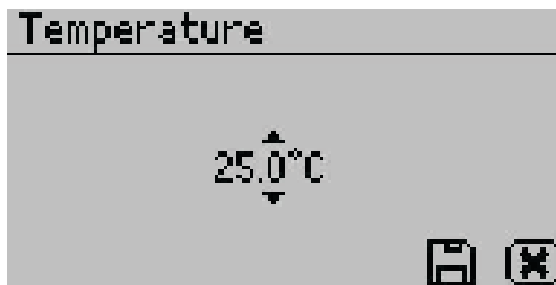

Figure 30 Temperature option
- **Temperature.** Select to set the AQUALAB 4 to the desired temperature using UP and DOWN. When finished, select SAVE (Figure 30).